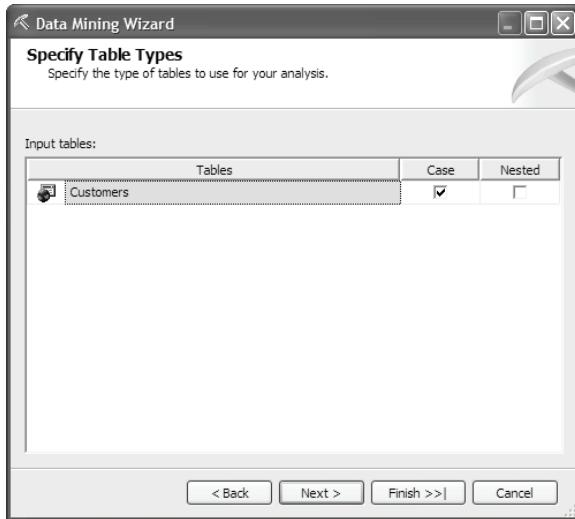

Figure 7.11 A data mining model can have only one case table.
4. In the Select the Data Source View step, select the Bike Buyers data source view we discussed in the *Construct data schema* step. Click Next to advance to the Specify Table Type step (Figure 7.11).